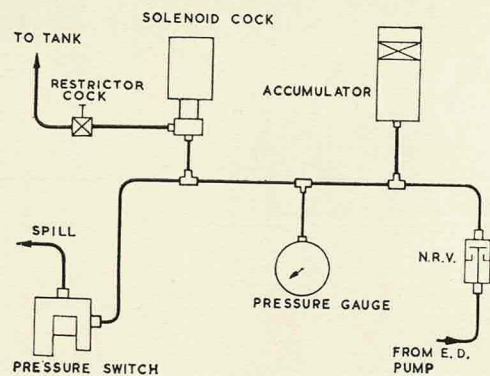
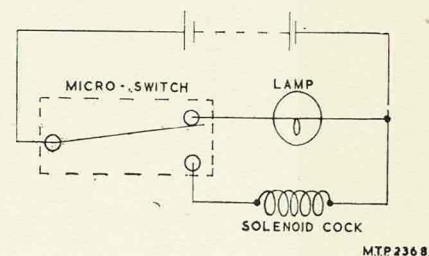

Fig. 4. Hydraulic test diagram
Fig. 5. Electrical test circuit
- (1) With the adjusting bolt removed, apply a pressure of 5400 lb/in² at the inlet and hold it for two minutes. Leakage is not permissible.
- (2) Apply a pressure of 500 lb/in² at the outlet and hold it for two minutes. Leakage is not permissible.
- (3) Fit the adjusting bolt and connect the unit to a hydraulic circuit (fig. 4) and an electrical circuit (fig. 5).